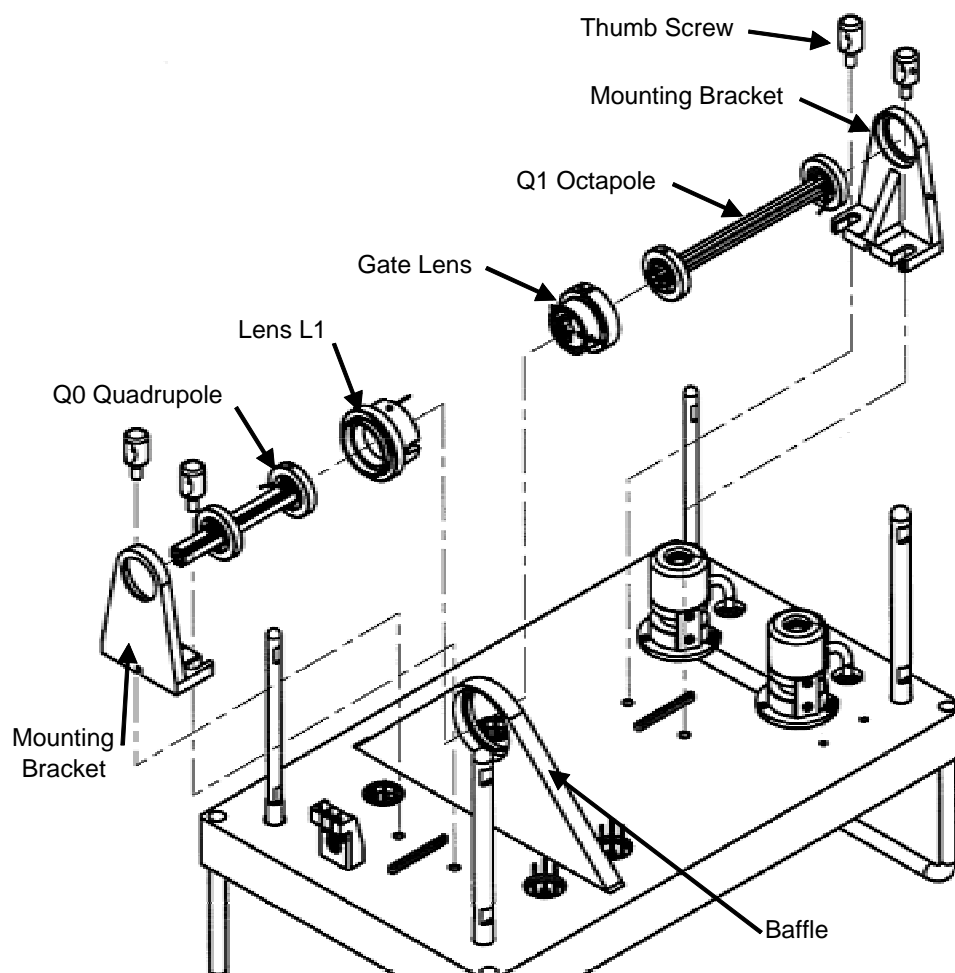

Figure 4-14. Exploded view of the Q0 and Q1 ion guides
Two adjustable mounting brackets hold the Q0 and Q1 ion guides in position against the baffle on the top cover plate of the vacuum manifold. See Figure 4-14.
3. Hold the Q0 quadrupole and lens L1 with one hand; loosen and remove the two thumb screws that hold the Q0 ion guide mounting bracket to the top cover plate of the vacuum manifold. See Figure 4-14.
5. Hold the Q1 octapole and gate lens with one hand; loosen and remove the two thumb screws that hold the Q1 ion guide mounting bracket to the top cover plate of the vacuum manifold. See Figure 4-14.
- a. Insert the gate lens into the opening in the baffle (Figure 4-14).
- a. Insert lens L1 into the opening in the baffle (Figure 4-14).
4. Reconnect the three cables to the Top Cover PCB. See figure 4-14 on page 4-31.